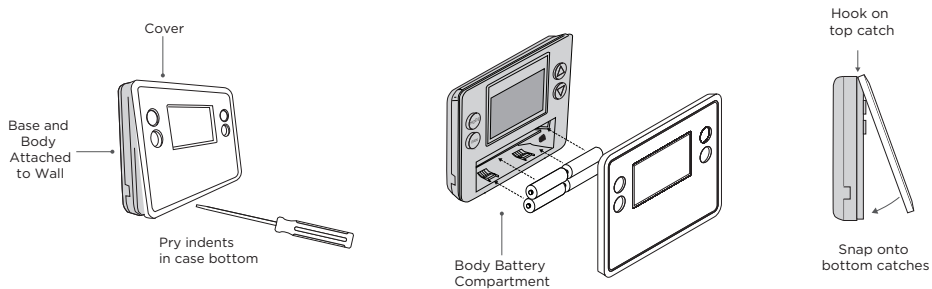

Figure 10: Battery Installation
3. If the thermostat is not connected to wired 24 VAC power, remove the cover and install the included batteries, then snap the cover onto the thermostat base. Refer to Figure 10.